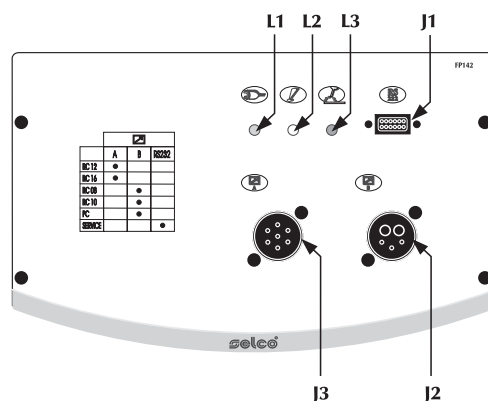

Fig.1
2.1.1 Betjeningspanel foran FP142 (Fig. 1)